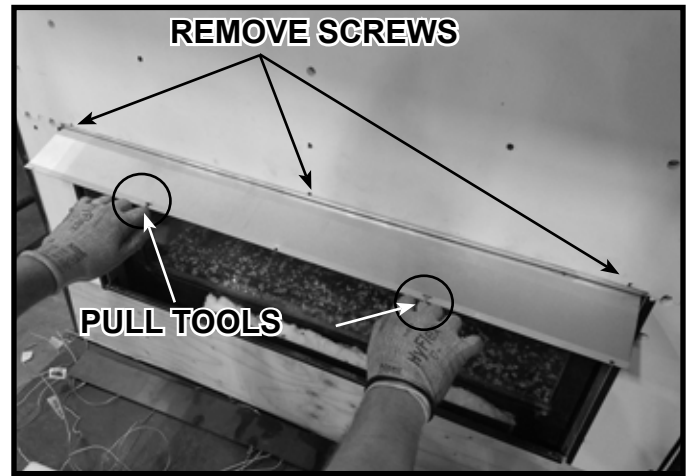
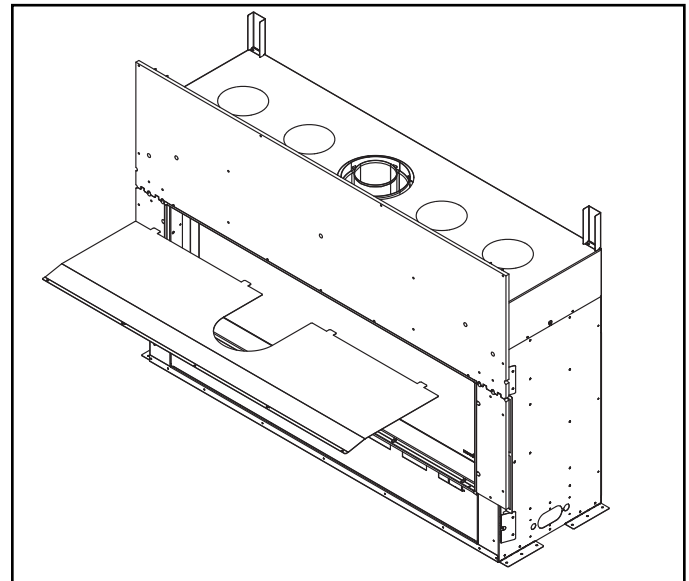

Figure 5.7 Use Pull Tools to Remove Heat Shield
Figure 5.8 Remove Heat Shield
4. Remove the screws from the heat shield as shown in Figure 5.7. Quantity and location of screws will vary between models.
7. Carefully pull the heat shield out of the appliance as shown in Figure 5.7 and Figure 5.8. Discard heat shield. Repeat procedure on other side if application is on a see-through appliance.